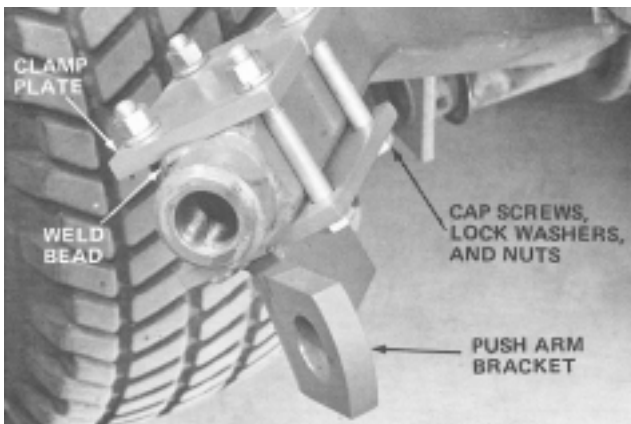

Figure 2
4. Install clamp plate and push arm bracket on right side push arm with four capscrews, lockwashers and nuts (Fig. 2).
Note: Clamp plate and push arm bracket must contact bead (Fig. 2) at front of push arm.